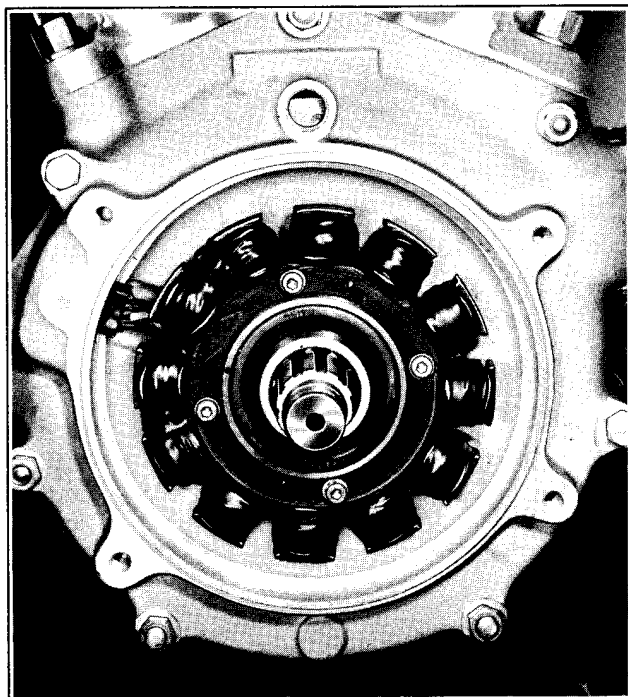

Figure 5-8. Stator Coils of the Alternator Mounted to Crankcase
The synchro alternator consists of two main components: the rotor (magnetic field) which is mounted on the engine sprocket shaft, and the stator (armature) which is bolted to the engine crankcase. See figure 5-8.
The stator consists of twelve (12) coils, each wound over a laminated iron core. The coils are positioned radially around the engine crankshaft and bolted to the outside of the engine crankcase. See Figure 5-8.